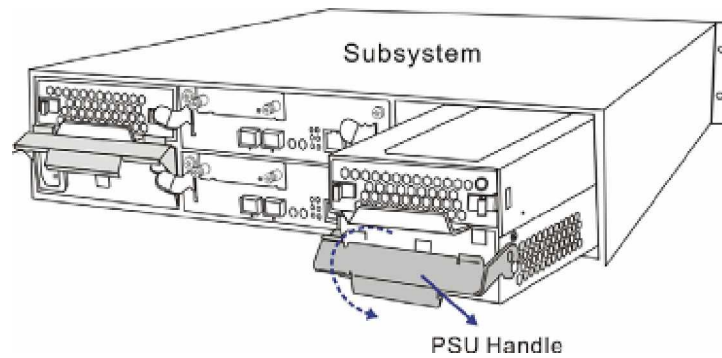

Figure 5-14: Pressing Down the PSU Handle
Step 4. Remove the PSU by pressing down the PSU handle found on the top of the PSU. (See **Figure 5-14**) to dislodge the PSU from the subsystem.